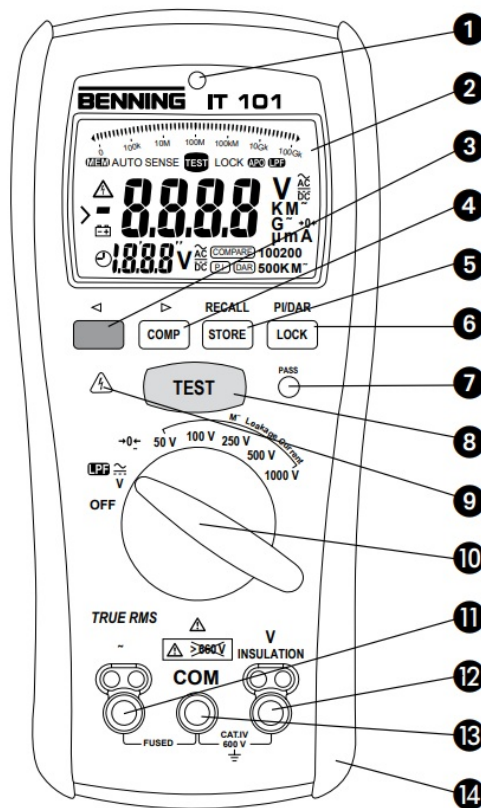

Fig. 1: Front tester panel
- plug the measuring leads into the correspondingly designated measuring sockets on the BENNING IT 101 see Fig. 1: Front tester panel